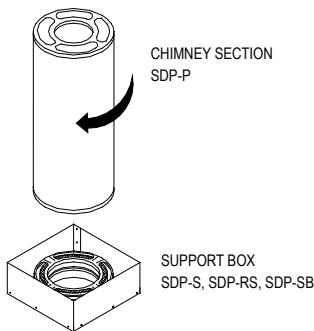

Figure 11
7. Assemble Chimney Sections: Lower and seat the female end of the first Chimney Section in the Support Box. (Figure 11). It will twist-lock onto the male end of a Low Profile Starter Section, which is a component of the Support Box. Turn Pipe Sections clockwise, firmly to lock them together. Sheet metal screws may be used to reinforce the connection, however they are not normally required. Screws are only acceptable in the outer liner.